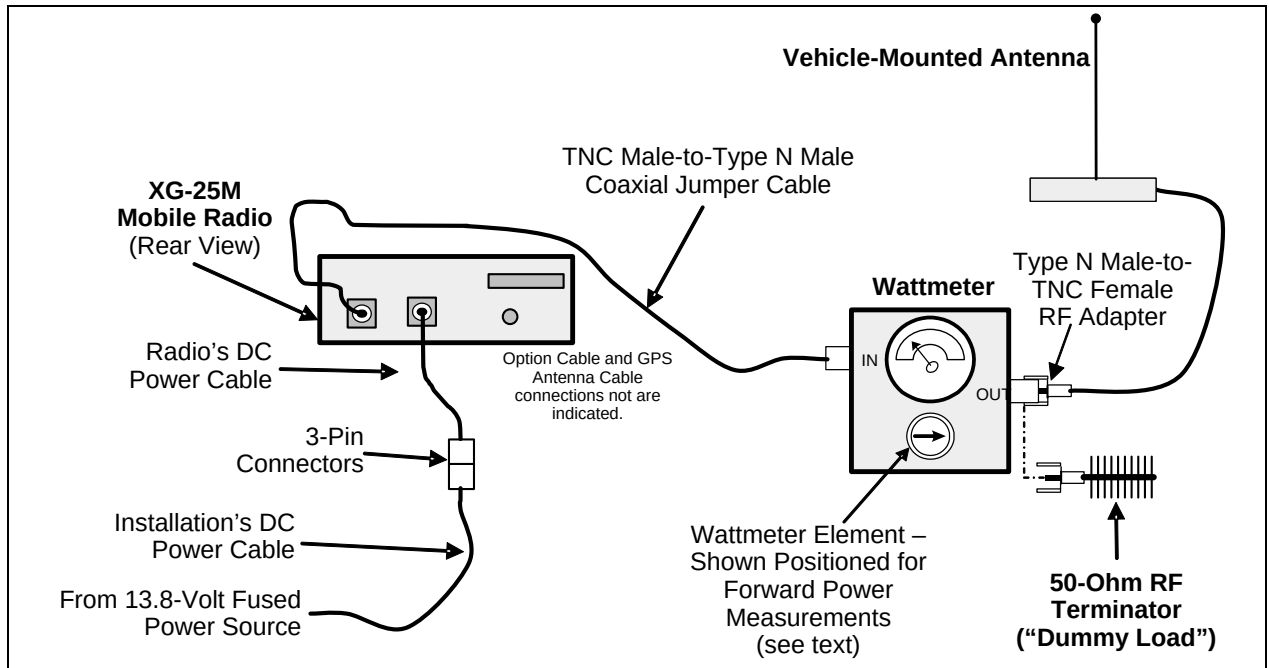

Figure 15-1: Wattmeter Connections for Antenna System Tests
2. Using the Type N male to TNC male RF coaxial jumper cable, connect the radio’s antenna connector to the wattmeter’s input connector. Refer to Figure 15-1 as necessary.
2. Connect the antenna cable from the vehicle-mounted antenna to the wattmeter as shown in Figure 15-1.